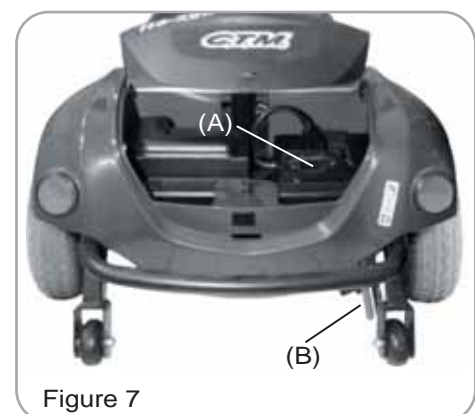

Figure 7
Open the compartment Cover to access on-board charger (A). (figure. 7)
When lever (B) (figure. 7) is in N (Neutral) position, scooter can be moved without power. When lever is in D (Drive) position, scooter can be driven. Normal position is D.